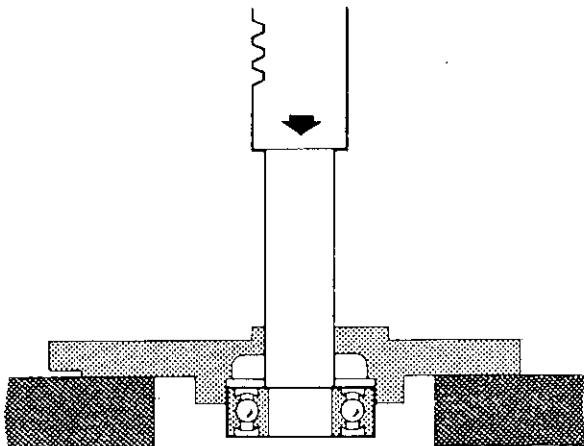

Figure 6.8
9. Remove the four bearing retainer screws (43) and lockwashers (42) from the lower end plate bearing retainer (41) and remove the retainer.
10. Press the lower end plate bearing (40) from the end plate as shown in Figure 6.8.